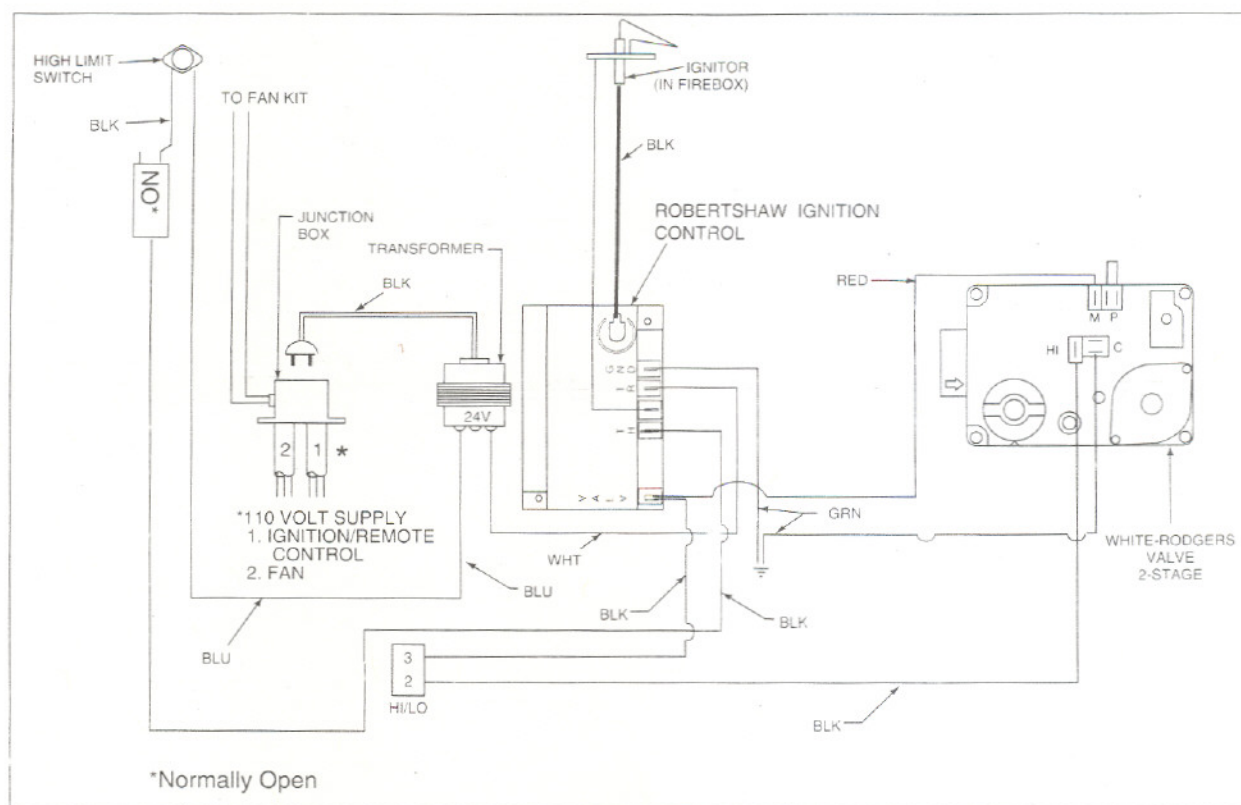

Figure 18
1. Appliance Requirements. This appliance requires a 110V power supply from a remote wall switch to the appliance junction box for operation. A wiring diagram is shown in Figure 18.
Optional accessories may be added now or at a later date, however, wiring should be done now to avoid significant wall reconstruction. Two black wires are for the optional 110 volt switched fan. The optional fan kit (FK4) requires a separate 110V power supply to the appliance junction box and a separate wall switch for operation, as shown in Figure 18, #2. In line with this junction box, you must have an on/off switch or a BC10. No additional power supplies are required for the fan motor speed control (BC10) or the remote control (RC5). One black wire and the one white wire are for supplying 110 volt for ignition and for the optional 110 volt switched remote control. Wiring diagrams are provided with all accessories.